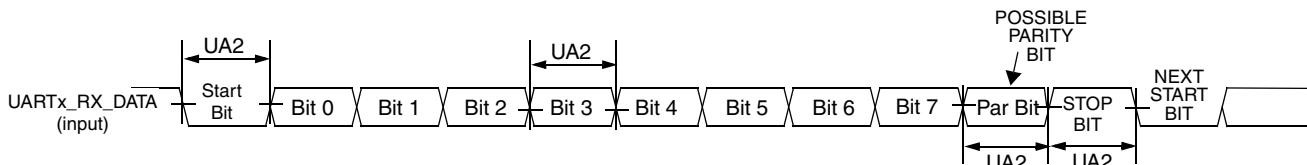

Figure 94. UART RS-232 Serial Mode Receive Timing Diagram
**Figure 94** depicts the RS-232 serial mode receive timing with 8 data bit/1 stop bit format. **Table 69** lists serial mode receive timing characteristics.